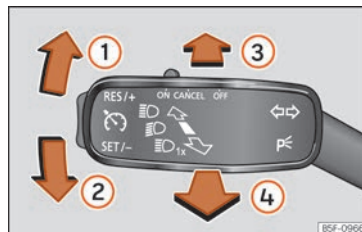

Fig. 131 Turn signal and main beam lever.
- Move the lever >>> Fig. 131 up ① or down ②.
- Press the lever »» **Fig. 131** forward in the direction indicated by arrow **③**.
- Pull the lever back to its original position in the direction indicated by arrow **④** to switch the main beam off.
- Pull the lever »» **Fig. 131** towards the steering wheel (point of resistance) in the direction indicated by arrow **④**.
- Move the turn signal lever **» Fig. 131 » page 122** up or down to turn on the right or left-hand parking lights respectively.